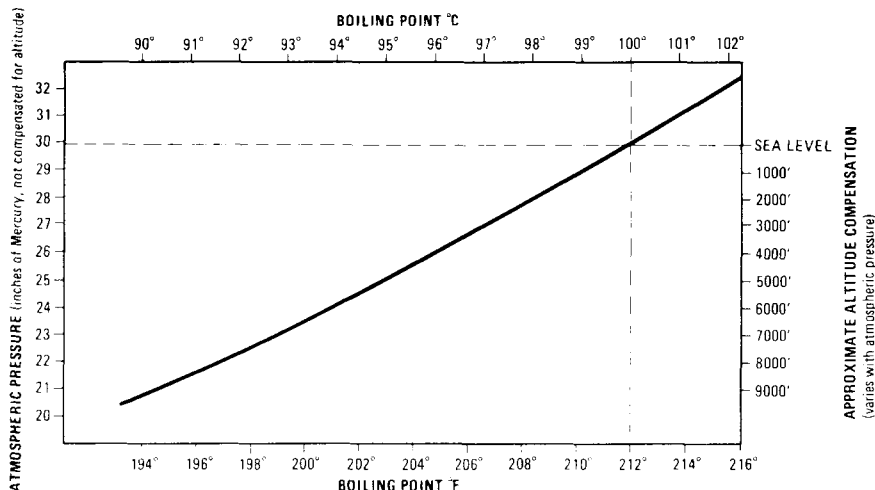

Fig. 4. Boiling point vs. altitude and atmospheric pressure.
6. Prepare container of boiling water and measure temperature with calibrated thermometer. If a calibrated thermometer is not available, Fig. 4 may be used to approximate the boiling point, but calibration will be less accurate. Remember that water boils at 100°C (212°F) only at sea level with a standard atmospheric pressure of 29.9 inches of Mercury. The boiling point decreases with altitude and varies from hour to hour with atmospheric pressure changes. If a calibrated thermometer is used, do not allow it to touch the container which holds the boiling water, since it will be considerably hotter.